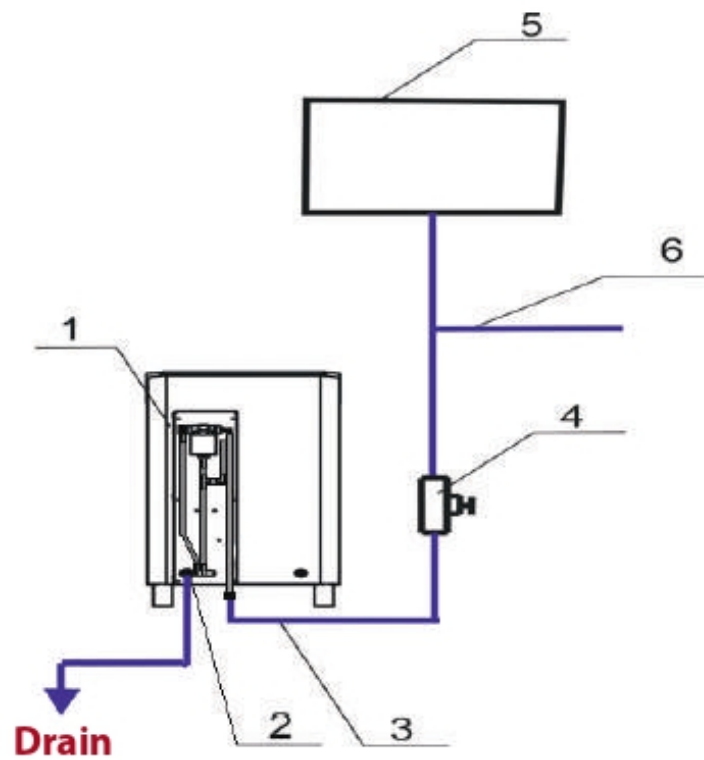
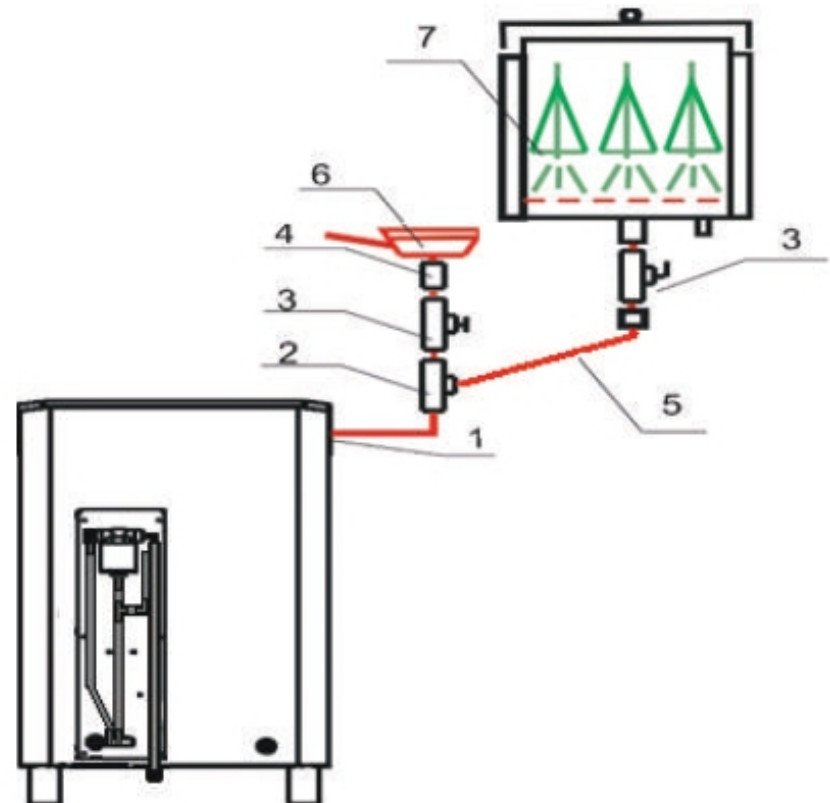

Fig. 7
Fig. 8
2.1.2.5 Remove the back cover by lifting it up. Connect the EH (no. 1, Fig. 7) using a flexible hose (no. 3, Fig. 7) to the water supply system (no. 6, Fig. 7) or storage tank (no. 5, Fig. 7) in an adjacent room. We recommend to install the storage tank at the height of at least 1 m from the EH top.
For the water supply of the steam generator, when using the storage tank (no. 5, fig. 7) it is necessary to perform the following steps:
Before the EH, a shutoff valve (no. 4, Fig. 7) shall be installed. Install the water drain valve (no. 2, Fig. 7) using a flexible piping of a required length. To prevent lime deposits, the water hardness shall be 0.5° to 5 °F. It is recommended to use a special installation - a demineralizer (with reverse osmosis). We recommend to use a special demineralization unit (reverse osmosis).
2.1.2.8 Optionally, the herbal steamer and/or besom steamer can be connected to the Electric heater according to the connection diagram (Fig. 8). Connect the herbal steamer (no. 6, Fig. 8) using a valve (no. 3, Fig. 8) or the besom steamer (no. 7, Fig. 7) using a corrugated stainless steel pipe (no. 5, Fig. 8) to the steam bleeding pipe (no. 1, Fig. 8). For the simultaneous use of the herbal steamer and besom steamer, use a T-joint (no. 2, Fig. 8)
2.2.2.1 Close the drain valve or insert the plug (no. 2, Fig. 7) and open the filling valve (no. 4, Fig. 7). When the electric heater is turned on in a room with a negative temperature, open the filling valve 15 minutes after turning on the steam generation mode.
2.2.2.5 After the Electric heater use, to prevent deposits in the steam generator tank, drain the water from the system. Close the filling valve (no. 4, Fig. 7) and open the drain valve (no. 2, Fig. 7). Wait till the system is completely empty. Leave the valves in this position till the next Electric heater use. Always drain the water, if the risk of its freezing is possible!